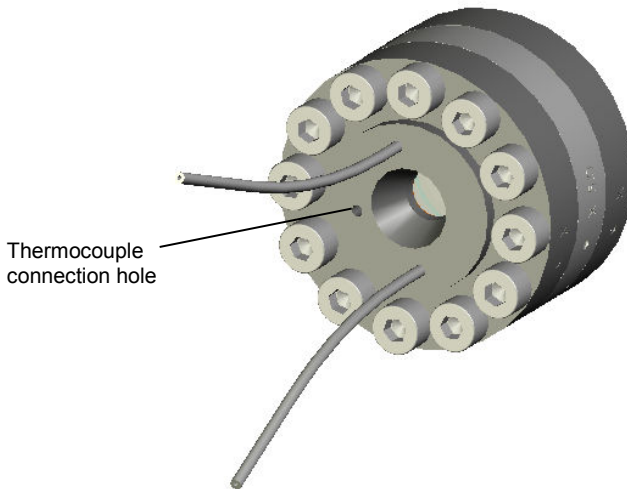

Figure 6. Thermocouple hole on front window housing
4. Insert the thermocouple from the temperature controller to the thermocouple hole in the front window housing of the Schlumberger High Pressure Liquid Cell. (See Figure 6). This enables the temperature of the cell to be monitored very close to the liquid sample.